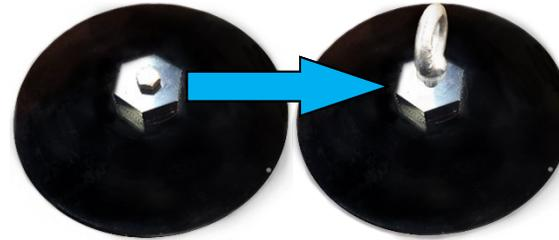

Figure 2-36. Eyebolt Installation
4. Unscrew the bolt from the new VariStroke cover (use **3/4 in** open end wrench) and counter cover (use **2 1/4 in** open end wrench) (Figure 2-36).
5. Screw the **.500-13 thread** eyebolt to the VariStroke cover (if it had been removed and used earlier while removing the servo from the skid). Required thread engagement is 0.75 inch minimum. Torque the eyebolt counter nut to **40-50 LBFT (54-81 Nm)** while countering the cover (use **2 1/4 in** open end wrench) (Figure 2-36).